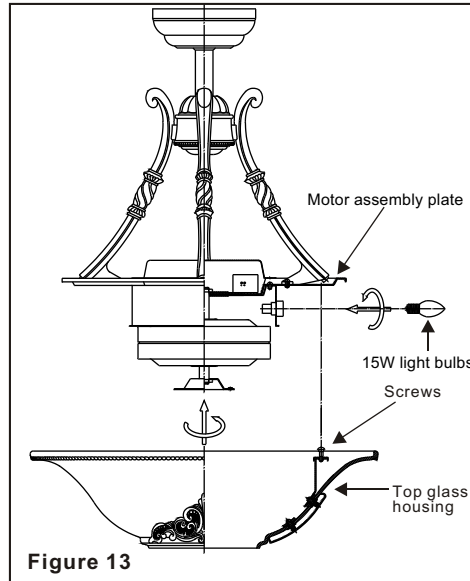

Figure 13
Step 1. Install the light bulbs (15W, 120VAC candelabra base included). Figure 13.